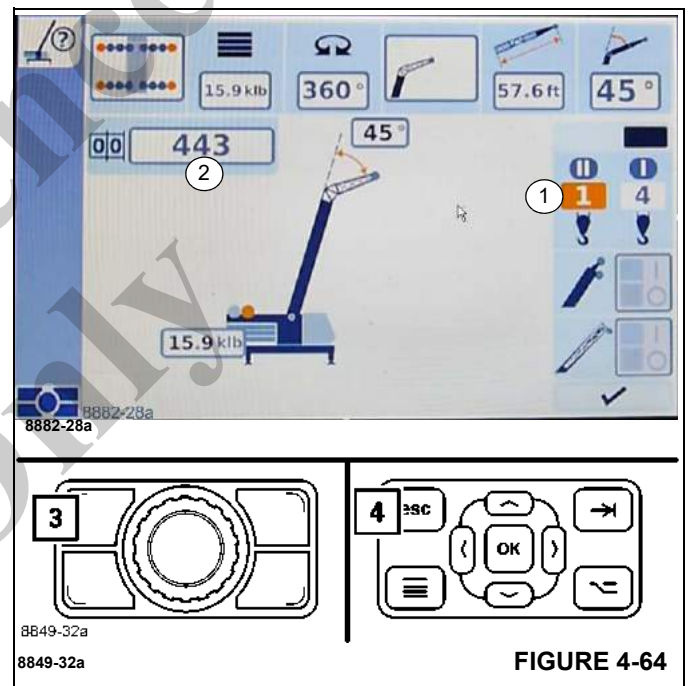

FIGURE 4-64
- Press the button (3), (Figure 4-64) or (4), (Figure 4-64) once – the config menu is opened.
- Select and confirm a symbol (1), (Figure 4-64) for the next component – symbol red.
- Select and confirm the symbol (2), (Figure 4-64). Refer to *Accepting the Rigging Code*, page 4-54.